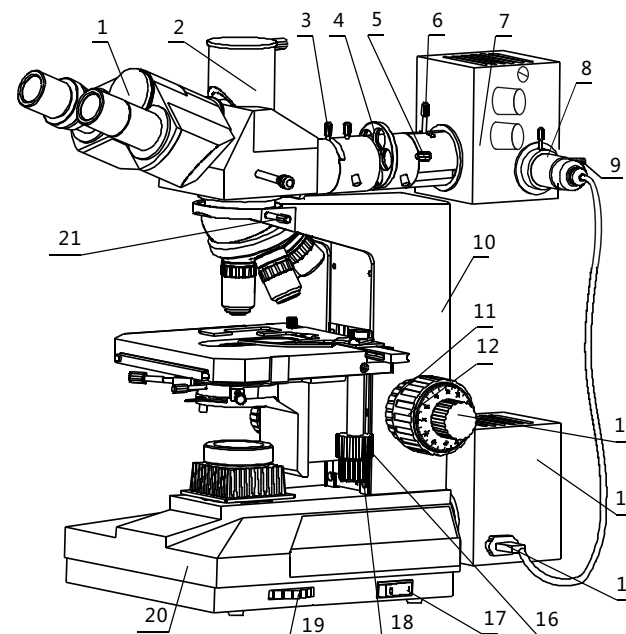

Fig.1
- (1) Plug the power plug 15 into power supply box 14. (Fig.1)
- (2) Push the Reflected light power switch 17 to "I", then the Reflected light power is turned on.
- (3) Take away the 10X objective, turn the nosepiece to its anchor point.
- (4) Put a piece of white paper on the stage.
- (5) Loosen the locking screw and move the location screw forward or backward to make the image of filament be in the center of paper.
- (6) If the image of filament not clear, you should adjust the condenser adjusting pole 6 to make the image clear.
- (7) If the image of filament offset the center of stage too far, you should take down the location screw and draw out the lamp, push it to side a little, then install the lamp and location screw again.
- (8) Install the 10X objective and put a piece of specimen on the stage again.
- (9) Adjust the coarse/fine focusing knob 12,13 to make the image of specimen clearly.
- (10) If brightness of field not equality, you can move the location screw of condenser screw slightly to make the brightness of field equality, then tighten the locking screw again to avoid the lamp moving.
- (11) Turn the field diaphragm to minimum, adjust the field diaphragm adjusting screw 25 to make the center of field diaphragm and field be superposition, then turn the field diaphragm until you can not see the image of field diaphragm in the field.
Put a piece of specimen on stage 38, select 10X objective and observe with it, turn coarse / fine focusing knob 12, 13 to make the image of specimen clear. Turn the field diaphragm down by turning the field diaphragm adjusting pole 23, then adjust the field diaphragm adjusting screw 25 to make the field diaphragm center coinciding with optics axis, then you can turn the field diaphragm adjusting pole 23 to make the field diaphragm bigger than field eyepiece. Turn the filters turn-plate 4 to select filter. (Fig.1,2)
Put a piece of specimen on stage 38, select 10X objective and observe with it, turn coarse / fine focusing knob 12,13 to make the image of specimen clear. When observe with different magnification objective, you should focus by the fine focusing knob 13, then put the filter in the filter base 34.(Fig.1,2)
Push the analyzer lever 26 to make the analyzer being on the observation position. When observe with reflected mirror, put the polarizer 3 into collector 32 and turn polarizer 3, you can observe the variant contrast light of field. When the polarized light is quadrature, you can observe the specimen on stage with polarized light. When observe with reflex, you should put the polarizer 33 on the collect 32 and turn the polarizer 33 to observe the variant contrast of field until the polarized light being quadrature. (Fig.1,2)